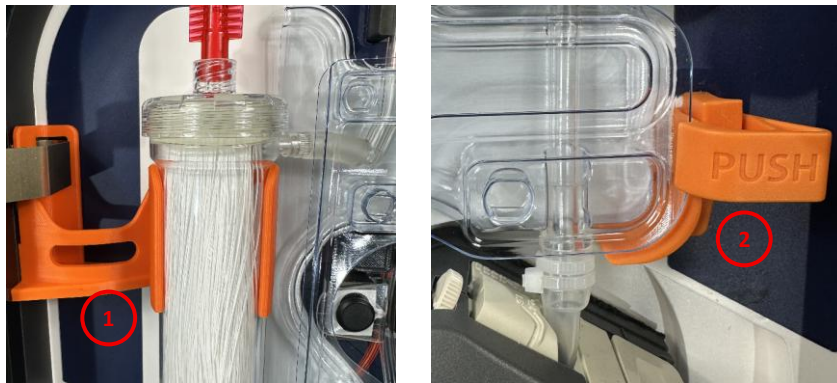

Figure 53: Clipping in the Set
→ Position the template, in vertical position, by pressing it against the ATS treatment area, and the fiber in the fiber holder (1) The template must be held in the template holder at the bottom right (2) (See Figure 53).
→ Position the template, in vertical position, by pressing it against the ATS treatment area, using 2 centring supports (1 and 2) as shown on the figure below (See Figure 53).